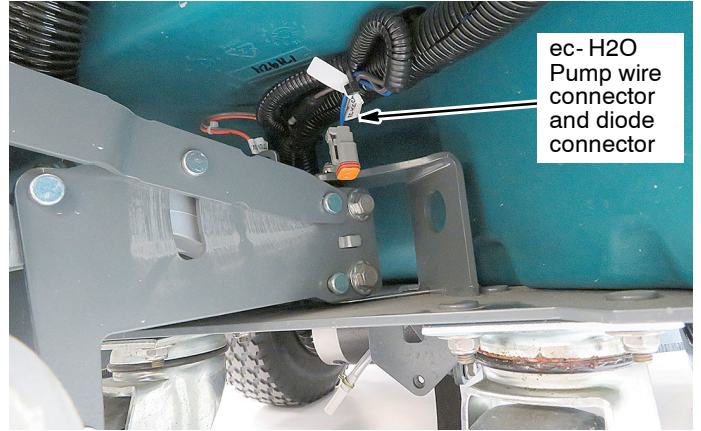

Fig. 21
20. Locate the factory installed ec- H2O pump wire connector and diode connector at rear of machine near the squeegee pedal (Figure 21). Cut the cable-tie to free up connectors.